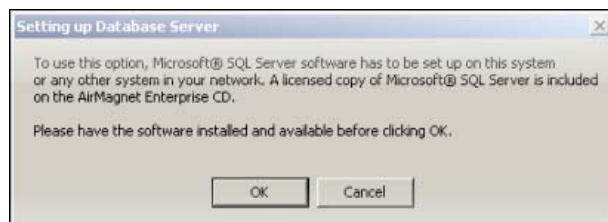

Figure 2-2: Database server setup reminder
- 4) The Setting Up Database Server message box appears. See Figure 2-2.